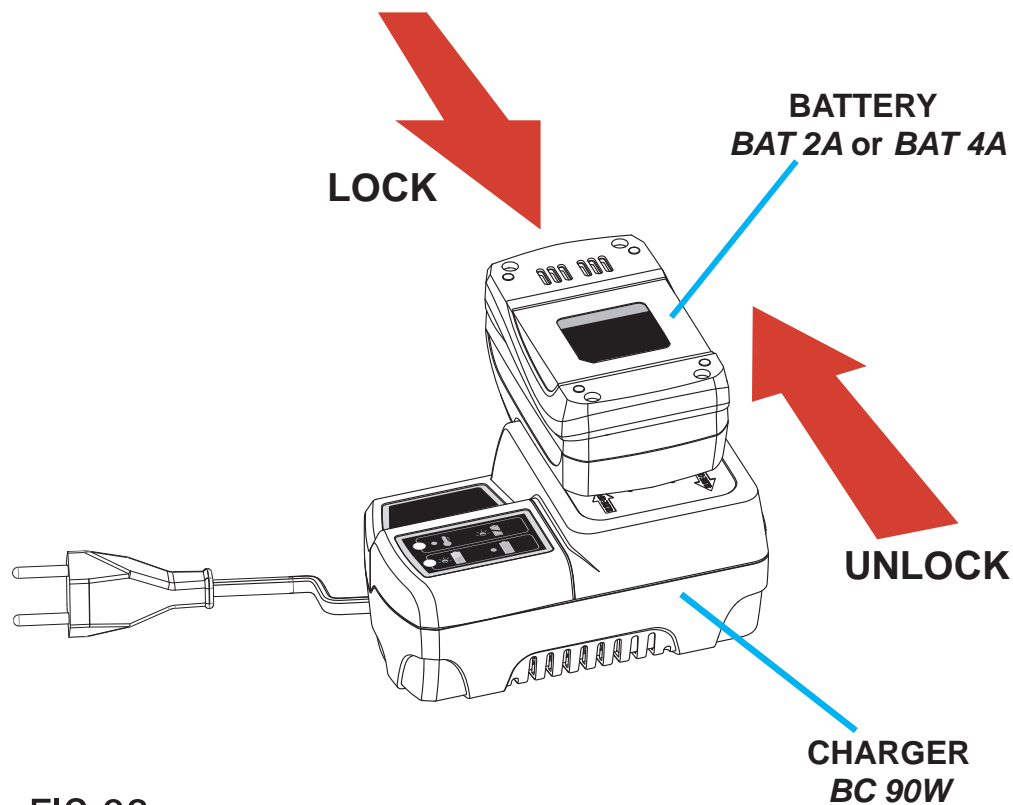

FIG 03
1. ATTACH the Battery with the correct Charger (BC 90W), by aligning the raised ribs of the Battery with the slot in the Charger (figure 03). SLIDE the Battery onto the Charger;